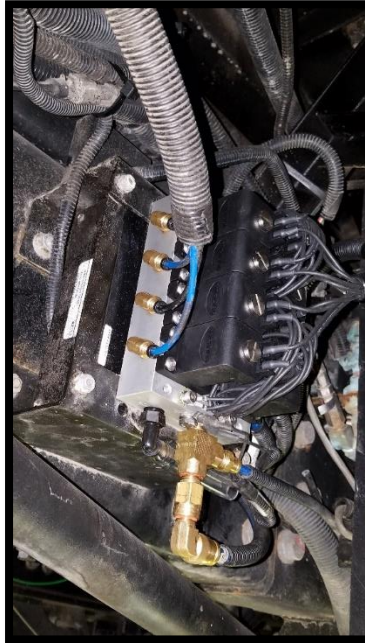

Fig 2-1
2. Locate Hadley ECU, which is mounted on driver's side frame rail, forward front axle. Find blue and black 35-way connectors on Hadley ECU, which are located behind manifold assembly. Refer to FIG. 2-1.